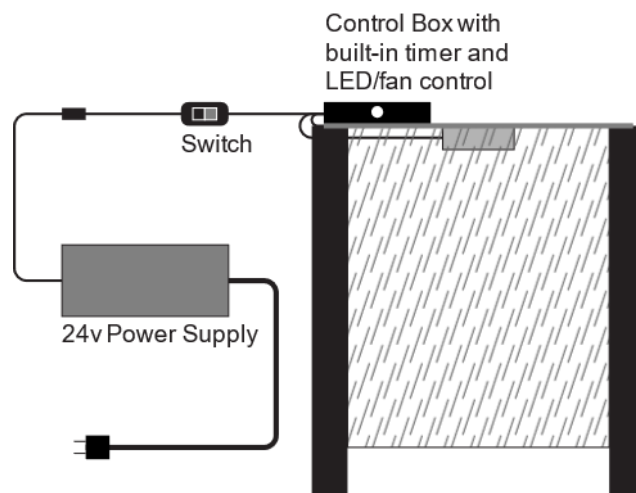

Figure 1. New (2021-2022) Growing Beyond Earth kit with Control Box
- It includes a 24-volt power supply, a switch, and a Control Box that is attached to the LED panel atop the growth chamber (Figure 1).